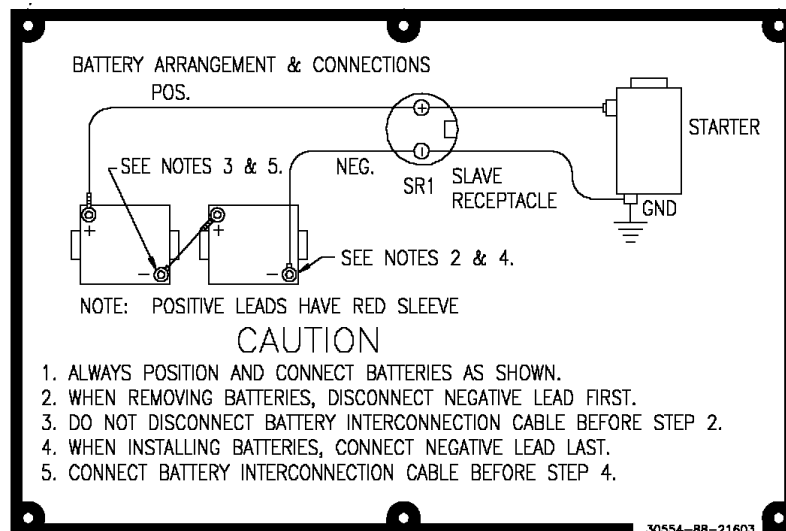

Figure 1. Battery Connection Instruction Plate
1. Disconnect the batteries in accordance with BATTERY CONNECTION INSTRUCTION PLATE, figure 1, located in the battery compartment.